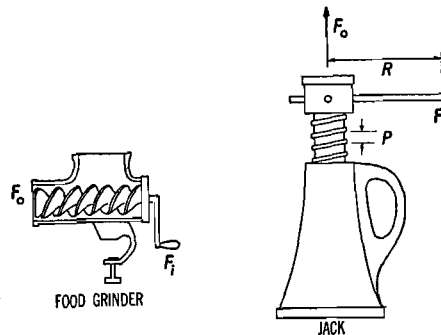

Fig. 4.7. Screw machines.
**21. The Screw.** A screw machine is used when a large mechanical advantage is needed in order to lift a heavy load. A jackscrew is shown in Figure 4.7. When the handle of a screw